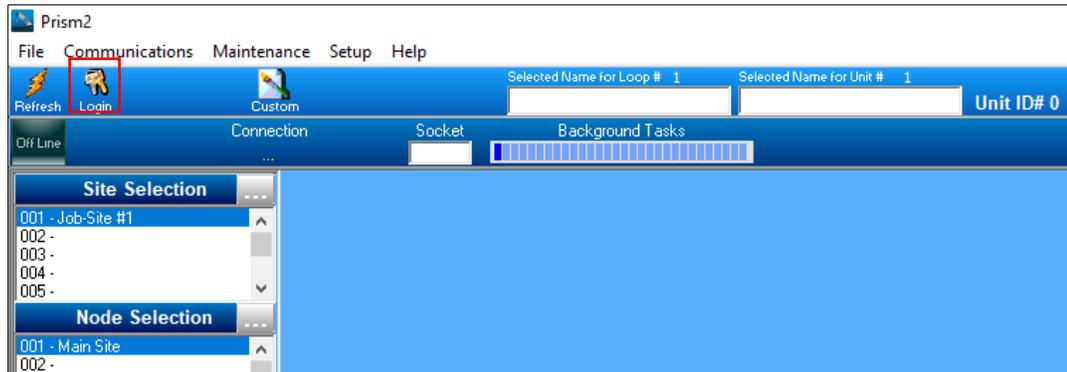

Figure 22: Logging into Prism
- Open Prism 2 on your laptop and left-click “Login” on the ribbon in Prism 2 (see figure 22).